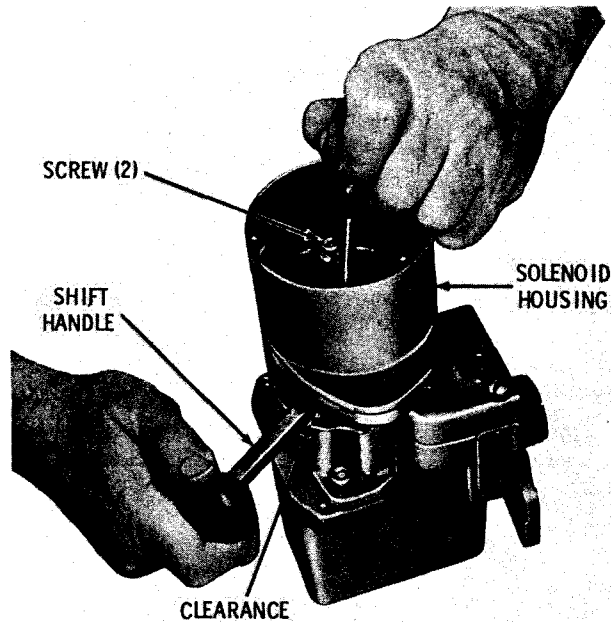

Fig. 4-18. Checking solenoid housing angular adjustment
(27) Check the angular position of the solenoid housing (fig. 4-18). Push the spring seat downward. While holding the seat downward, push the shift handle, in the upshift direction against a gate pin and then in the opposite direction. The inhibitor clutch should engage, but should allow the shift handle to move away from the gate pin contacted a maximum of 0.060 inch and a minimum of 0.040 inch when hand pressure on the handle knob does not exceed 15 lb. This 0.060 inch maximum movement applies to the gate pin where the least movement is found when all positions are checked. As a result of tolerances in manufacturing, clearance at some gate pins can exceed 0.060 when the clearance is correctly adjusted at the position where least movement occurs. Check the movement at all gate pins.
(28) Too great a clearance, in (27), above, requires a counterclockwise adjustment of the solenoid housing to reduce the clearance; too little requires clockwise adjustment.